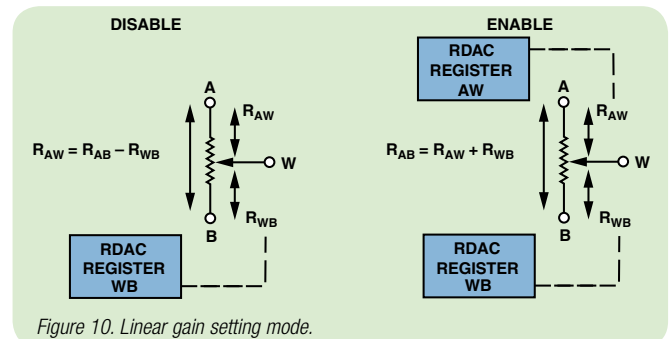

Figure 10. Linear gain setting mode.
- The new patented linear gain setting mode allows controlling the potentiometer as two independent rheostats, R_{AW} and R_{WB} , connected in a single point, W terminal (see Figure 10). This mode is ideal in equations where the output depends on the ratio of two resistors, $G = R1/R2$, for example, in an inverting amplifier. This mode can be found in the AD5141, offering a maximum ratio error below $\pm 1\%$.